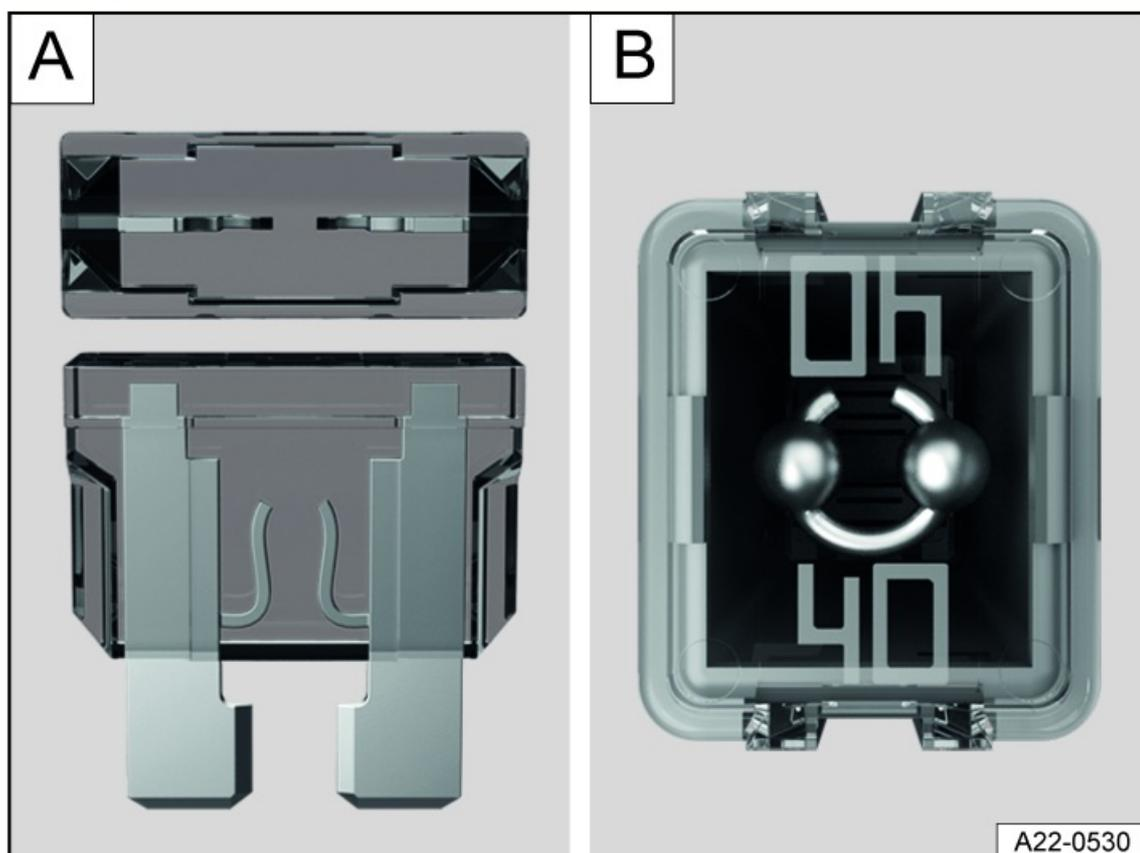

Fig. 154 Blown fuse (general example).
transparent housing from above and from the side *fig. 154* **A**.
- A blown block fuse (JCASE[®]) is recognizable by the melted metal strip seen through the transparent housing from above *fig. 154* **B**.